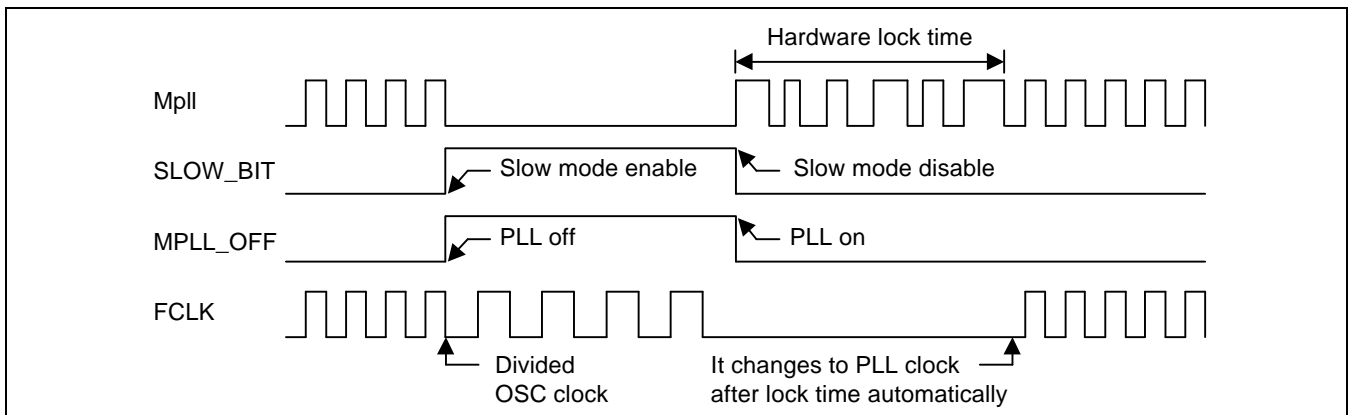

Figure 7-11. Issuing Exit_from_Slow_mode Command and the Instant PLL_on Command Simultaneously
12. CLOCK & POWER MANAGEMENT : 7-13 : Figure 7-11 : 01/20/2003